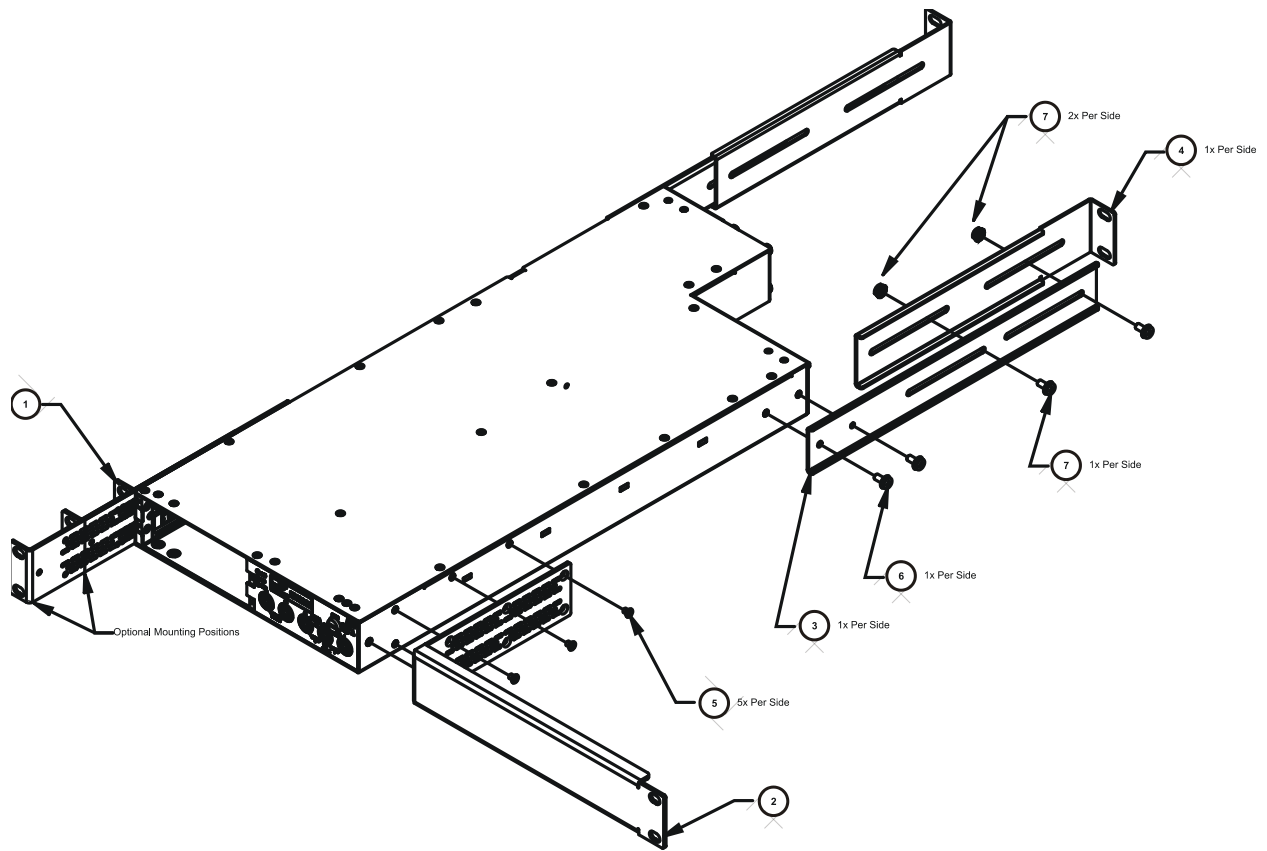

FIGURE 2-6: HALF RACK WIDTH RACKMOUNT INSTALLATION DIAGRAM (EXPLODED FRONT VIEW)
- 2) Using a #2 Phillips screwdriver, install the rack ears (P/N: 41-0482-009 and 41-0493-011) on the front of the EX1200 using five (5) 6-32 x 3/8" flat head Phillips stainless steel screws (P/N: 37-0114-025) for each rack ear. Note that the "Optional Mounting Locations" in Figure 2-6 allow the EX1200 to be installed in a rack either flush or recessed.
- 3) Next, attach the unit support brackets (P/N: 41-0482-010) to the EX1200 using two (2) 6-32 x 3/8" pan head Phillips SEMS screws (P/N: 37-0028-037) for each bracket (see Figure 2-6).
- 4) Place the rear rack support brackets (P/N: 41-0482-011) on the inside of the unit support brackets installed in step 3 and loosely secure them using two (2) 8-32 x 3/8" pan head Phillips SEMS screws (P/N: 37-0073-037) and two (2) KEPS hex nuts (P/N: 37-0200-832) per bracket. Loosely installing the hardware will allow the rear support bracket to adjust to the proper length once installed in a rack.